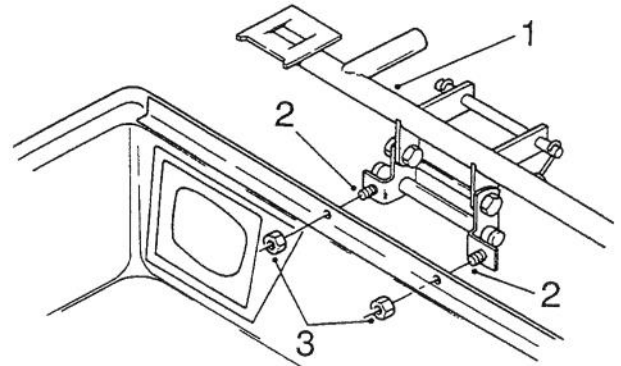

Figure 7
3. Mount the frame and hinge assembly to the bagger top (Fig. 7) using two 1/4" x 3/4" bolts (already installed on the hinge assembly) and two 1/4" nylon lock nuts.